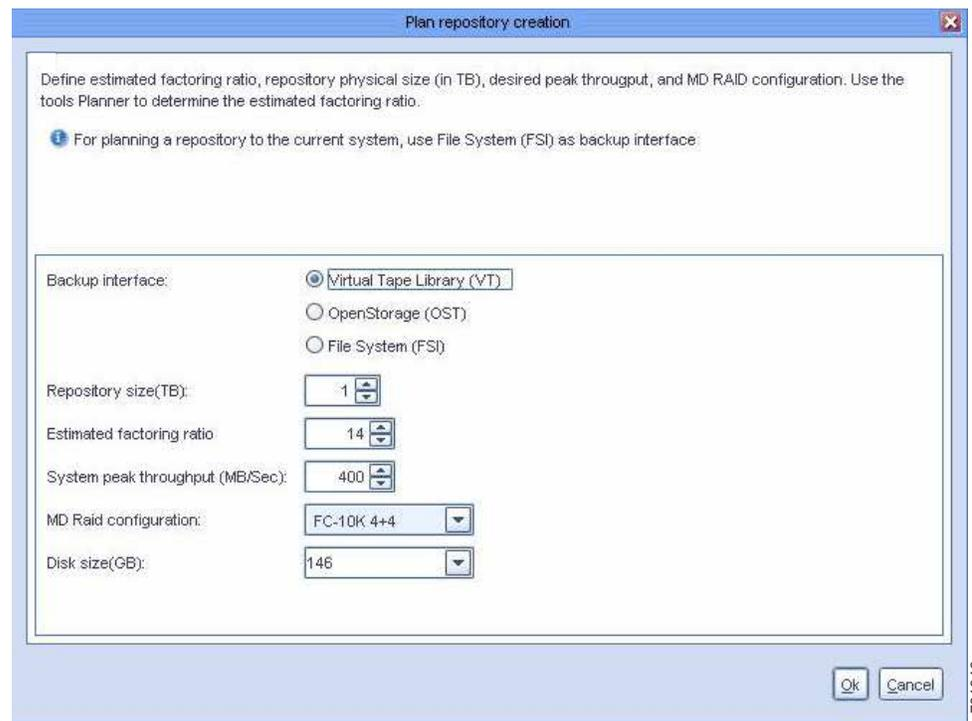

Figure 24. “Create repository planning” wizard
2. Click **Repository > Create repository planning**. The “Create repository planning” wizard opens. See Figure 24.